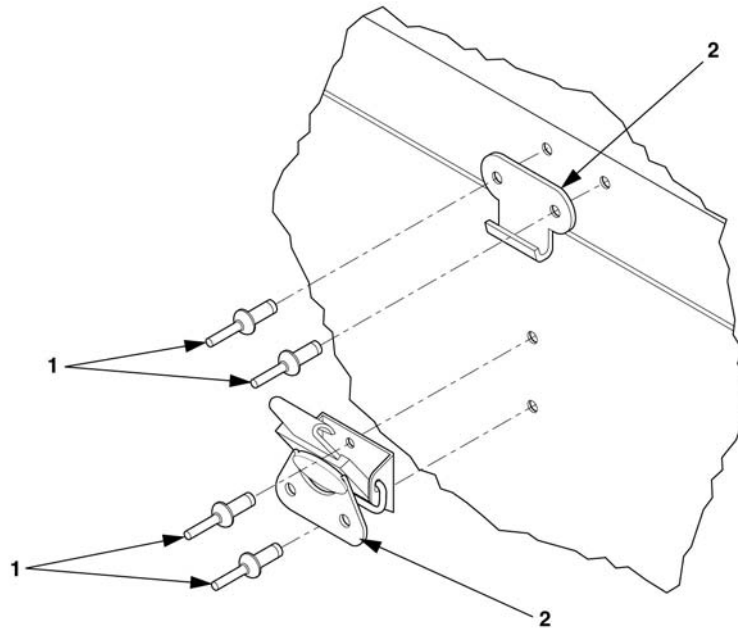

Figure 4-12.2. Clamping Catch Replacement (B&C Models)
1. Drill out rivets (1, figure 4-12.2) that secure clamping catch (2).
2. Remove defective clamping catch (2).